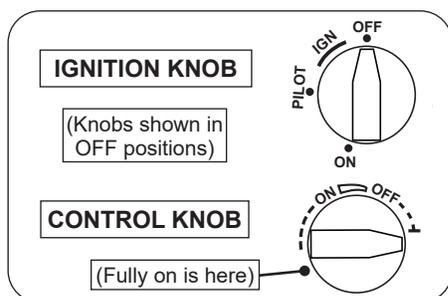

Fig. 28-1 Ignition and control knobs
2. Locate the valve on the unit. Push in the ignition knob slightly and turn clockwise ↻ to **OFF** (see Fig. 28-1).
5. While still holding the knob in, turn the knob counterclockwise ↺ to **PILOT** until you hear a click (piezo igniter will activate and light pilot). Continue to hold the knob in for about one (1) minute after the pilot is lit. Release the knob and it will pop back out. The pilot will remain lit. See Fig. 28-1 and 28-2. If it goes out, repeat steps 2-5.
1. Ensure the pilot is burning. Turn the ignition knob counterclockwise ↺ to **ON** (see Fig. 28-1).
2. Turn the control knob counterclockwise ↺ to the **fully ON** position to ignite the burner (see Fig. 28-1). The valve will open and the burner will light.
To shut down the main burner (pilot will remain lit), turn the control knob clockwise ↻ to the **fully OFF** position (see Fig. 28-1).
To shut down the burner and pilot (total shutdown), turn the control knob clockwise ↻ to the **fully OFF** position, and push in the ignition knob slightly and turn clockwise ↻ to **OFF** (see Fig. 28-1).